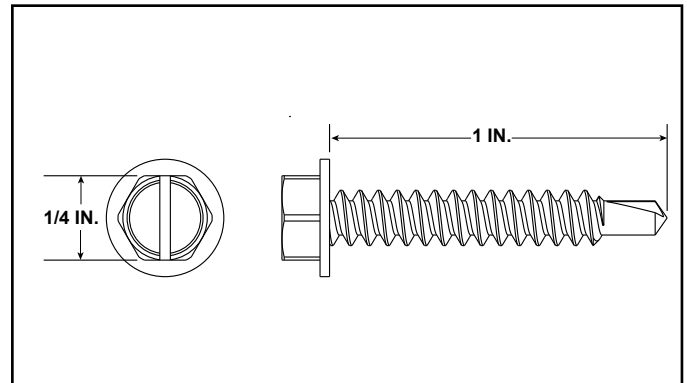

Figure 9.6 One Inch Mixing Screw
1. With the shutter installed, replace the 1/4 inch screw with the one inch screw supplied in manual bag and tighten most of the way. See Figure 9.6.